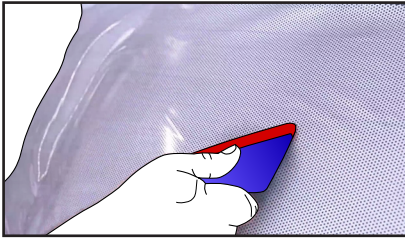

Figure 21
- › Immediately after the film application, run the felt-covered squeegee over the entire compound from the centre of the film towards the edges. This prevents the formation of bubbles. (FIG. 21)